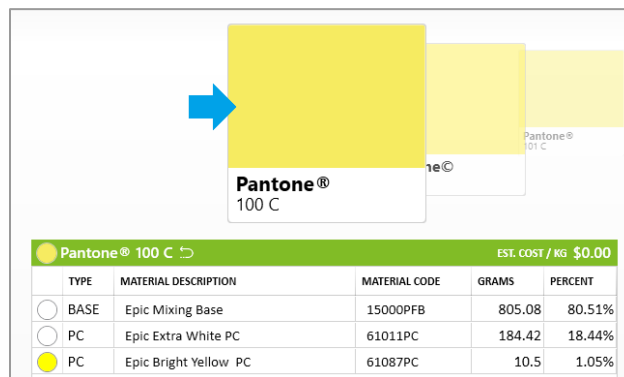

Figure 13 Exporting to Excel
- IMS 3.0 allows you to easily export your formulas to an Excel spreadsheet, providing the colorist a worksheet to document revisions and attach a color swatch. First select the formula you would like to export from the Formula Picker. In this example we will export the formula Pantone 100C. (Figure 13)